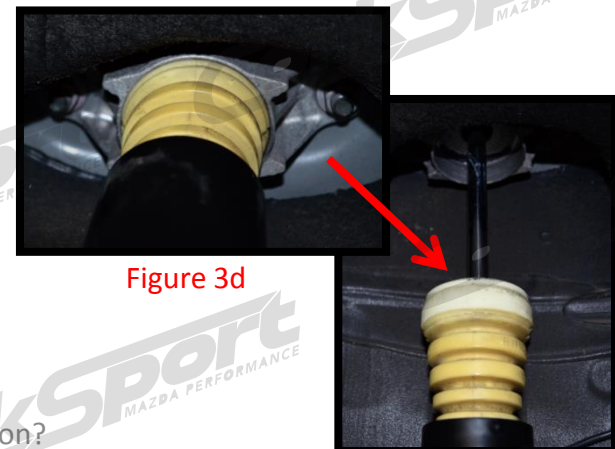

Figure 3d
- k) **OPTIONAL** – Cut the rear bumpstop shorter. It is **NOT** necessary to remove the strut from the vehicle. Pull the upper strut cover and bumpstop out of the upper aluminum bracket. Cut a portion of the bumpstop off (Shown in **Figure 3d**). Re-install the bumpstop and strut cover.
- k) **OPTIONAL – Cutting the rear bumpstop shorter. It is NOT necessary to remove the strut from the vehicle.** Lay a rag over the brake rotor and caliper to help prevent scratching your arms when the bumpstop pops out. Pull the upper strut cover and bumpstop out of the upper aluminum bracket (shown in Figure 3d).